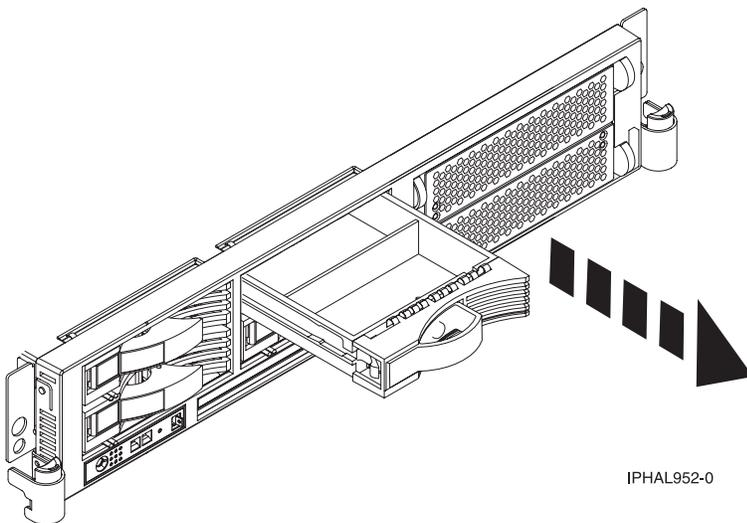
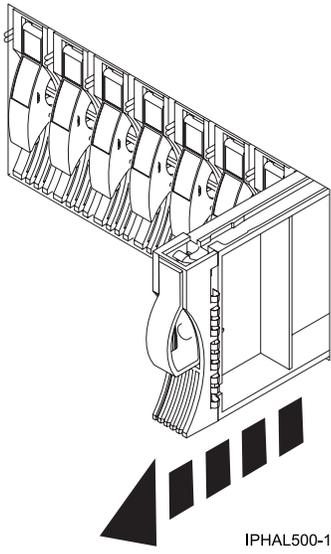

Figure 133. Removing a disk-drive filler from a model 51x or 710
Figure 134. Removing a disk-drive filler from a model 52x, 55x, 9116-561 or 570
4. Pull the disk-drive filler from the slot. Pull the disk-drive filler from the slot that you want to use, as shown in Figure 133 or Figure 134 on page 136.